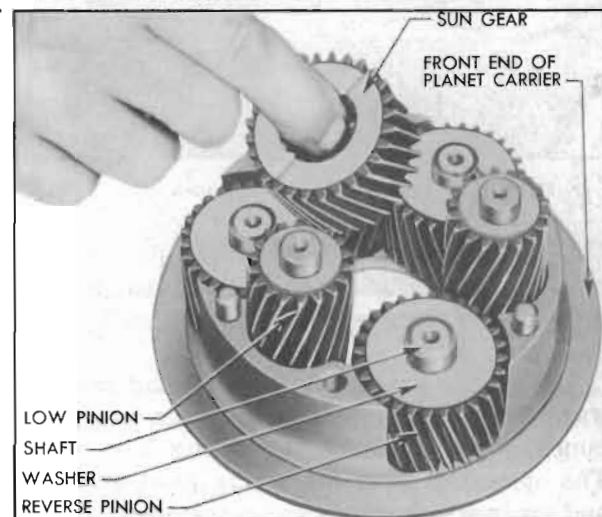

Figure 4-124—Removal of Sun Gear and Planet Pinions
3. Remove the sun gear rear thrust washer, which may be either on sun gear or stuck in rear end of carrier. Remove reverse sun gear. See figure 4-124.
4. Remove the 3 low planet pinion assemblies, each consisting of a pinion, shaft, and bearing rollers retained at each end of pinion by steel thrust washers. See figure 4-124. A retaining ring snapped into a groove in shaft will hold the lower thrust washer in place as shaft is tapped out of carrier. The shaft is prevented from turning in carrier by a $\frac{3}{32}$ " steel ball imbedded in end of shaft. Do not lose the steel ball.
2. Make sure that steel ball is embedded in each shaft to prevent turning in carrier, then install planet pinion assemblies in front end of planet carrier, using care to engage the steel balls in the notches in carrier. See figure 4-124.